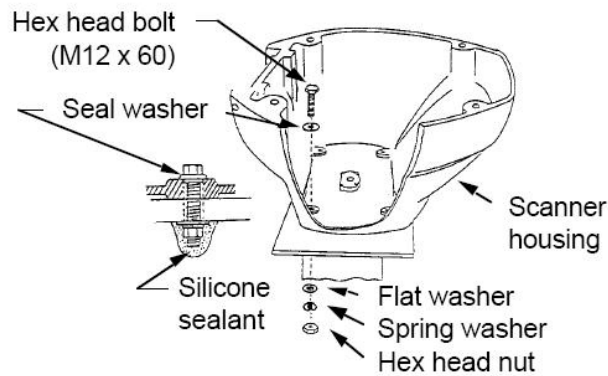

Figure 6-7 How to mount the antenna housing
4. Insert four M12 × 60 hex head bolts with the seal washers from inside the antenna housing, to prevent the bolts from contacting the transceiver module. Install the seal washer with the larger diameter next to the head of the bolt. Coat flat and spring washers and nuts and then use them to fasten the antenna housing to the mounting platform. Finally, coat exposed parts of nuts, bolts and flat and spring washers as shown in Figure 6-7.